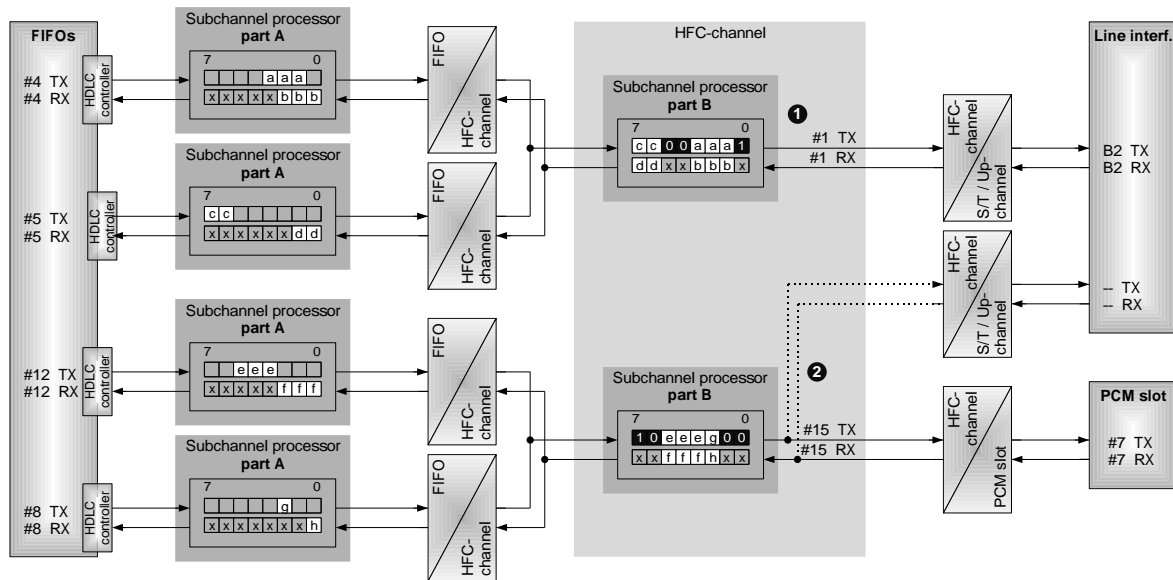

Figure 3.18: CSM example with subchannel processor
In *Channel Select Mode* up to 8 FIFOs can be assigned to one HFC-channel if only 1 bit is processed by every FIFO. The example in Figure 3.18 shows two bidirectional configurations (❶ FIFO-to-ST/Up and ❷ FIFO-to-PCM) with two FIFOs per direction each.
**Table 3.10:** Subchannel processing according to Figure 3.18 (CSM 1 TX, transparent mode)
**Table 3.11:** Subchannel processing according to Figure 3.18 (CSM ① RX, transparent mode)